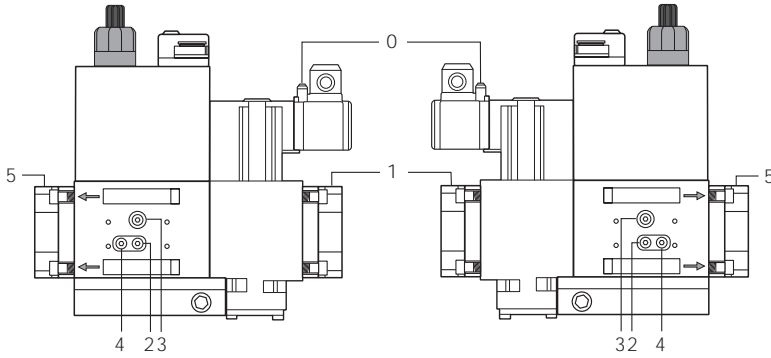
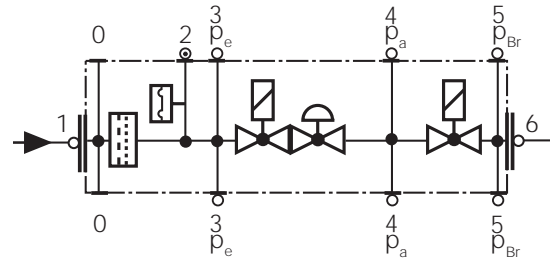

Fig. 46
Fig. 47
- Change the filter if the pressure difference between pressure connection 1 and 2 (Fig. 46-Fig. 47)  $\Delta p > 10$  mbar.
- Change the filter if the pressure difference between pressure connection 1 and 2 (Fig. 46-Fig. 47) is twice as high compared to the last check.